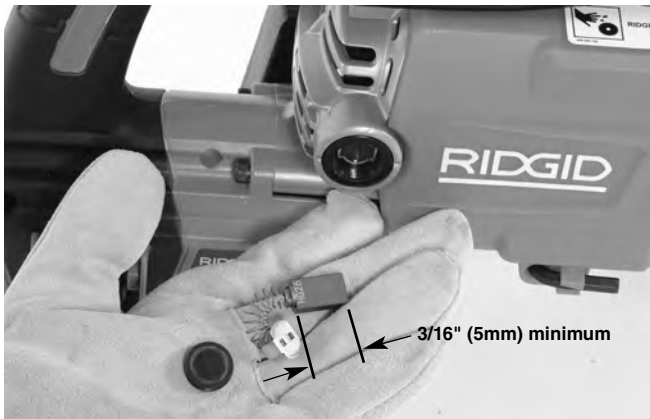

Figure 22 – Changing Brushes
2. Remove brushes noting orientation. Inspect brushes. Replace when worn to less than 3/16" (5 mm). See Figure 22. Inspect the commutator for wear. If excessively worn, have machine serviced. Clean the brush holders with a clean cloth.